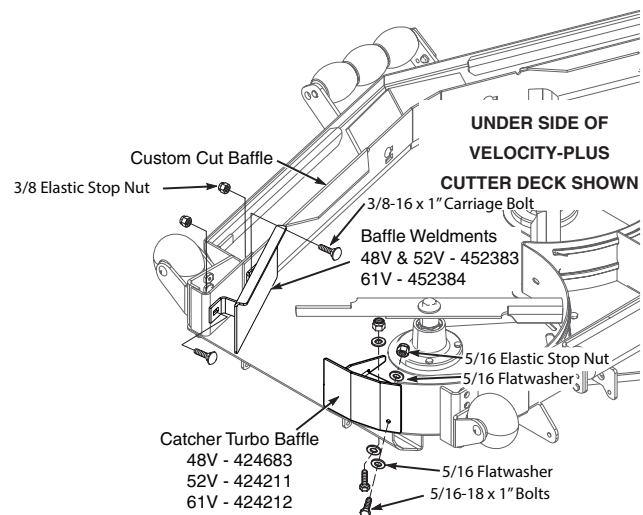

Figure 2-2. Grass Catcher Baffles
5. Remove the "Turbo" baffle from the cutter deck. Using the original hardware, install the new "Turbo" baffle. See Figure 2-2.
7. Install the grass catcher baffle weldment and secure using 3/8-16 x 1" carriage bolts and 3/8-16 elastic stop nuts. See Figure 2-2.